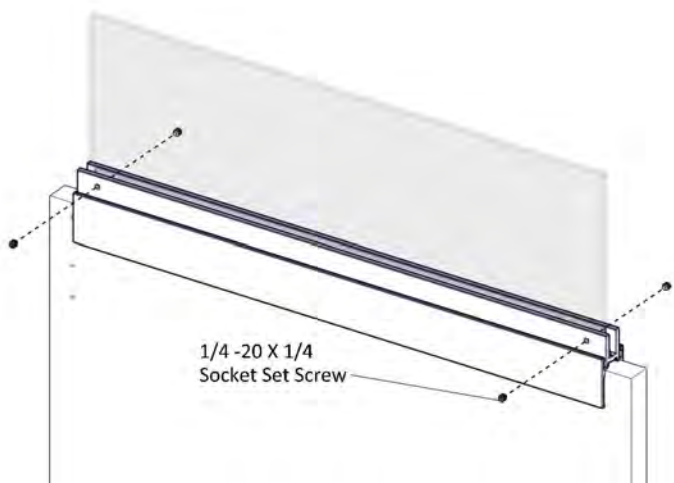

Figure 4
5. Align and secure the glass/acrylic by inserting 1/4-20 X 1/4" Socket Set Screw through each of the holes on the side of the base extrusion using Allen Key driver, (Figure 4).